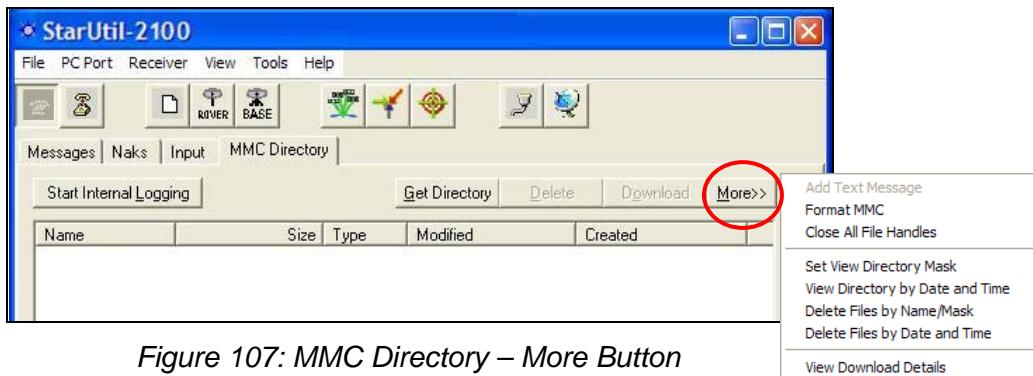

Figure 107: MMC Directory – More Button
- ✓ Click the *More* button (see Figure 107). A menu opens.